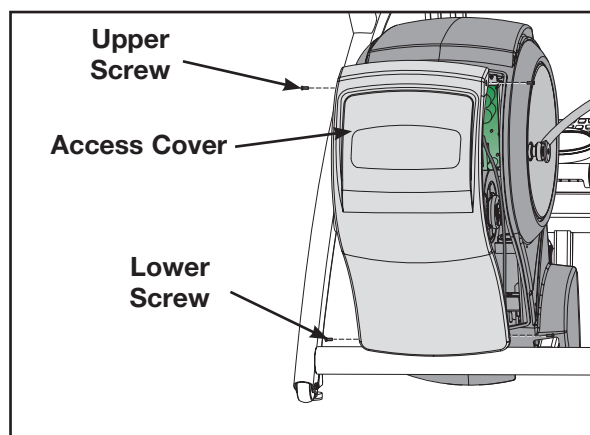

Figure 6
A. Using a Phillips screwdriver, remove the two lower screws (one screw on each side), securing the access cover. See Figure 6.
- A. While being sure not to pinch any cables, hold the access cover in place. See Figure 6.